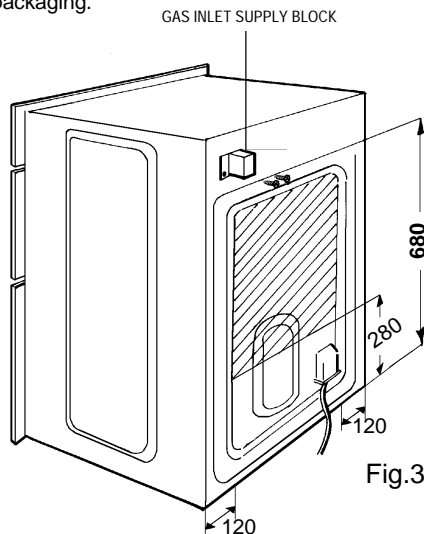

Fig.3
- 6 If the gas supply bayonet and wall fixing bracket are to be located behind the appliance it must be located in the shaded area as indicated in Fig.3.
- 7 Connect flexible hose to the gas inlet supply block see Fig.3. The hose should be long enough to allow the appliance to be withdrawn from the cabinet.
- iii) Remove the two screws on the gas inlet block Fig.3.